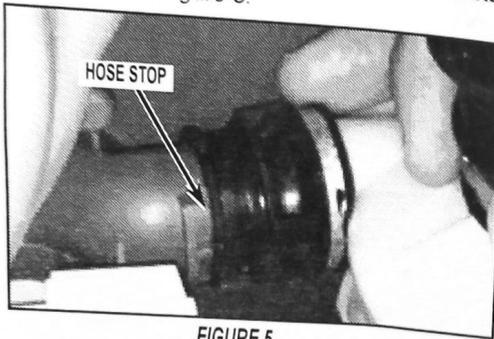

FIGURE 5
- a. Make sure the hose end is seated against the stop on the sump. See Figure 5.